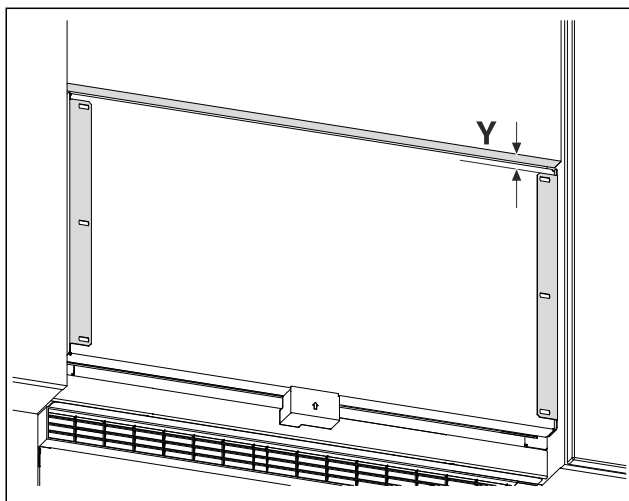

Fig. 24 Example illustration
- ▶ Measure the distance Fig. 24 (Y) from the lower edge of the unit door to the retaining bracket.